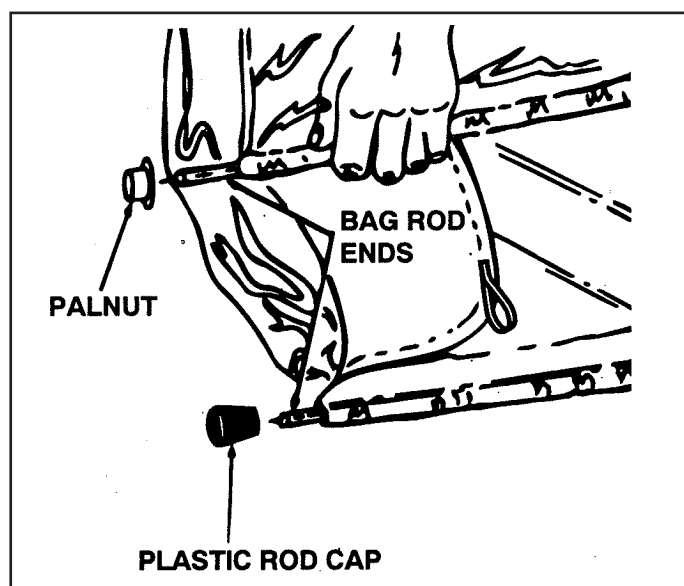

FIGURE 6
- Assemble the two plastic rod caps to the rod ends of the bottom bag rod. Assemble two Palnuts to the ends of the top bag rod. See figure 6.